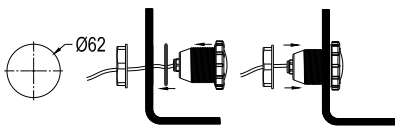

Figure 2.
- 3) Use the nut provided to fix the underwater light on the pool wall, as shown in Figure 2.